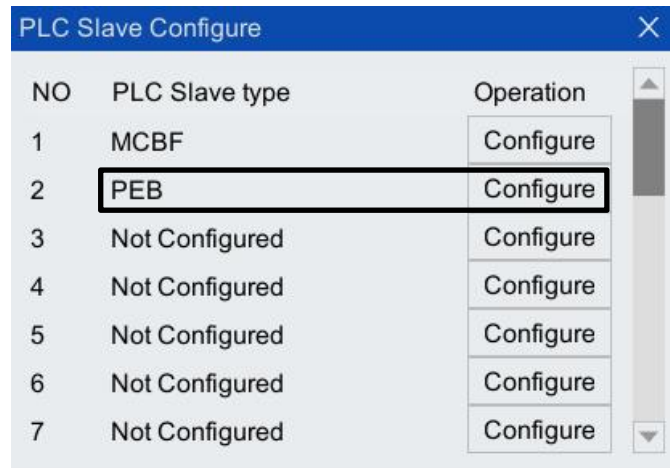

Figure 8-24 The type of PLC slave with serial number 2 is configured as "PEB"
Step3. After restarting, in the main interface of the teach pendant, click "System > System Configuration > PLC Slave Configuration" option to enter the "PLC Slave Configuration" interface shown in Figure 8-24, the serial number is The PLC slave type of 2 has been successfully configured as "PEB".